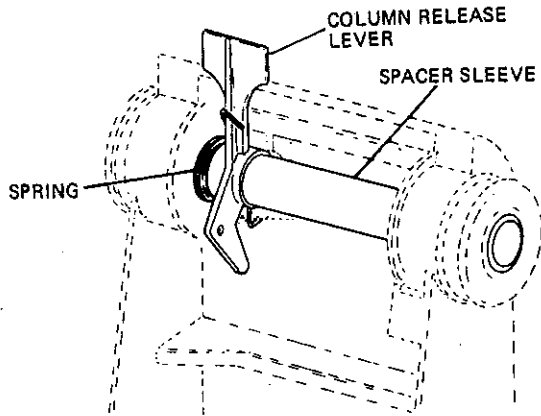

Figure 48. Pictorial view of column release lever.
- E. Position the column release lever and spring in the swivel bracket and insert the spacer sleeve (Figure 48).